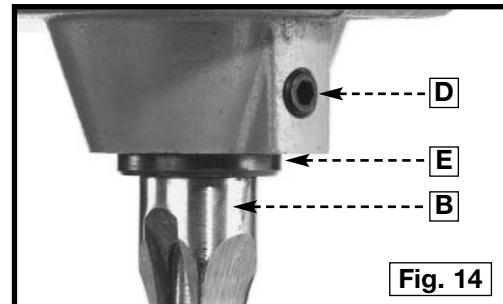

Fig. 14
4. Loosen the set screw (D) Fig. 14, and push the chisel (B) against the bottom of the bushing (E), and tighten the set screw (D) to provide the proper distance between the cutting lips of the bit and the points of the chisel.